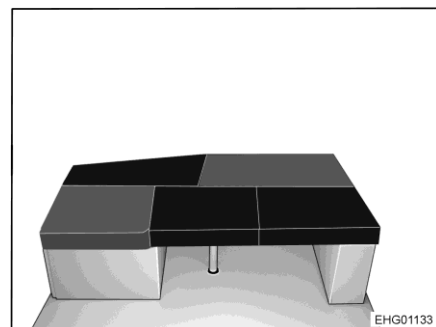

Fig. 169 After conversion
- Place three additional cushions in line with Fig. 169.